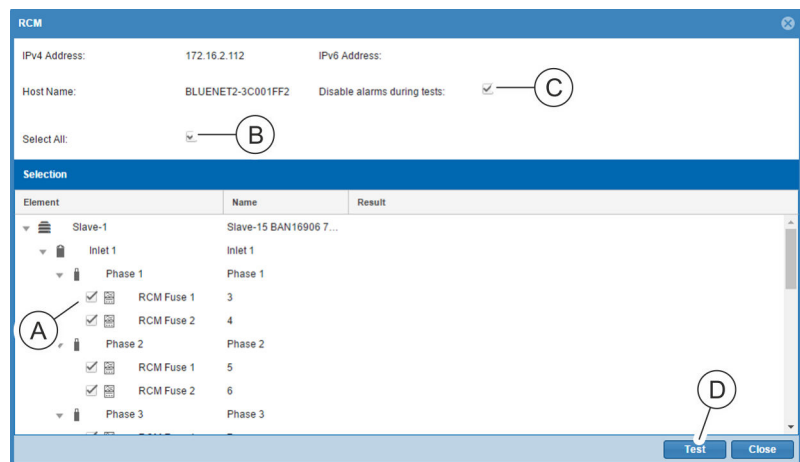

Fig. 107: “RCM” window
3. ➤ Select the individual RCM to be tested (Fig. 107/ⓐ).
- Alternatively, select the “Select All” (Fig. 107/ⓐ) checkbox to select all the available RCM for checking.
4. ➤ If necessary, uncheck the “Disable alarms during tests” checkbox (Fig. 107/ⓐ) to activate the triggering of signal sequences during the test.
5. ➤ In the “RCM” window, click the “Test” button (Fig. 107/ⓐ).